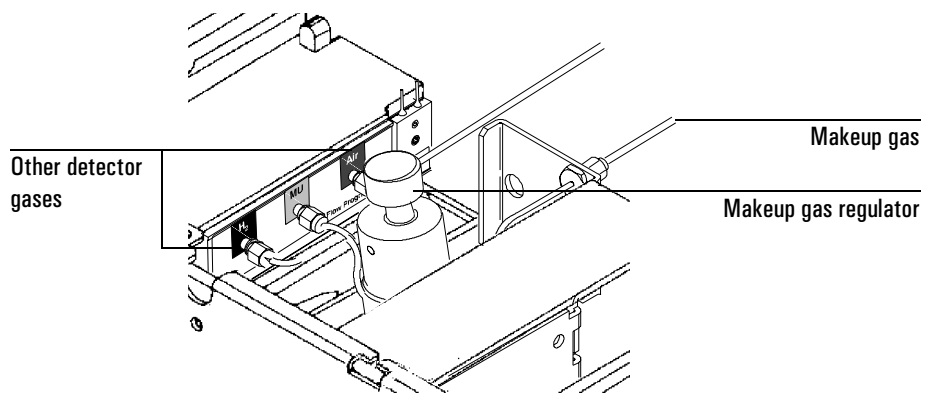

Figure 16. Connecting tubing to a non-EPC detector
4. The FID uses hydrogen, air, and a makeup gas. The inlets are labeled; connect the tubing to the appropriate inlet with a SWAGELOK nut. Connect the makeup gas to the fitting on the regulator. The other gases are connected to the labeled fittings on the manifold. See Figure 16.